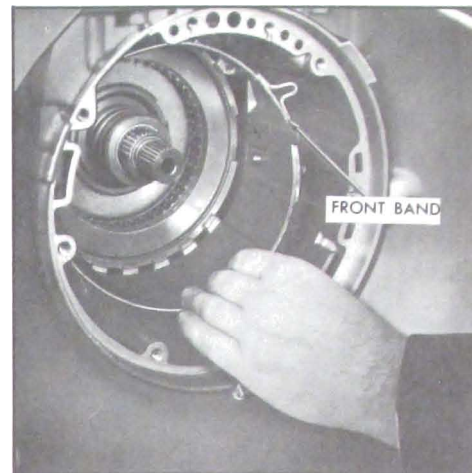

Figure 5-721
16. Install front band with band anchor hole placed over the band anchor pin and apply lug facing servo hole. See Figure 5-721.